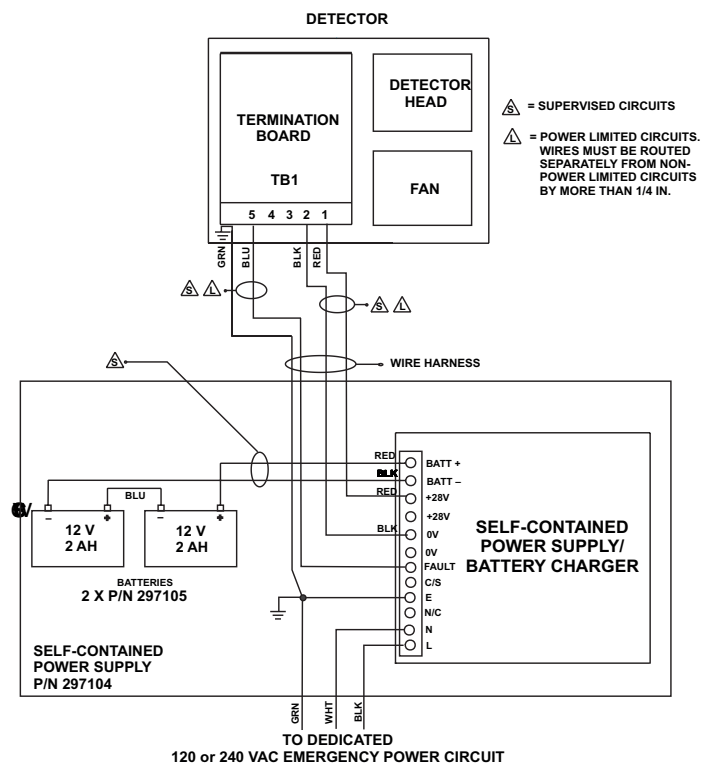

Figure 4-13. Self-Contained Power Supply Wiring Diagram
11. Loosen power supply module retaining screw and shift the power supply module to connect AC wiring (refer to Figure 4-13 for wiring diagram).
12. With the AC power switched off, bring AC input wiring through appropriate knockout and connect AC wiring to neutral (N) and line (L). The AC power must be an emergency power circuit that is backed up by an automatic starting, engine-driven generator.